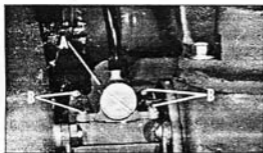

Fig. 19
3. If blower still does not operate properly, remove pump housing cover (A) Fig. 19, by removing four screws (B).